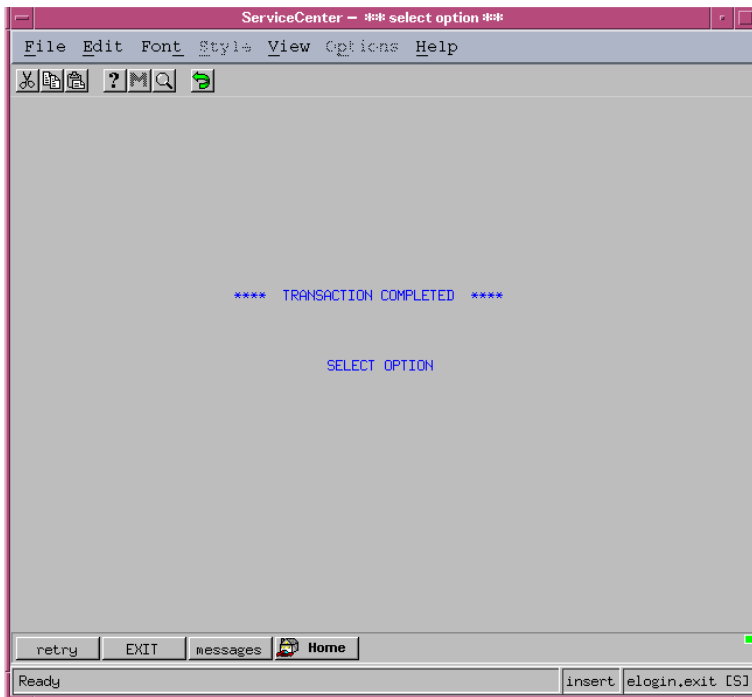

Figure 4-2. ServiceCenter Logout window
- When the logout window is displayed (Figure 4-2), select the **EXIT** button from the popup menu or press F1 to exit the ServiceCenter session.